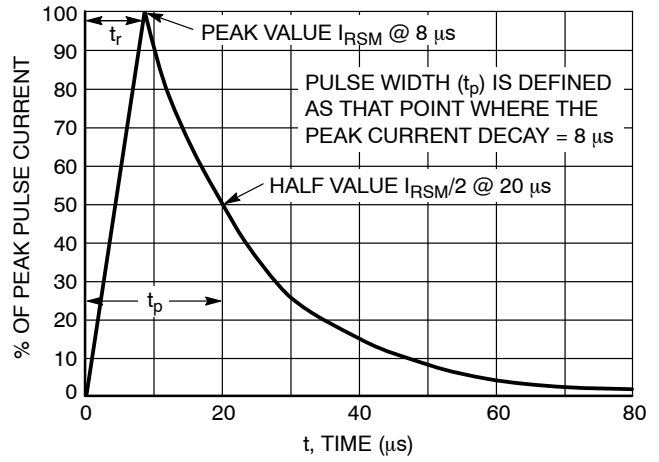

Figure 2. 8 X 20  $\mu$ s Pulse Waveform
2. Surge current waveform per Figure 2 and clamping voltage ( $V_C$ ) per Figure 6.